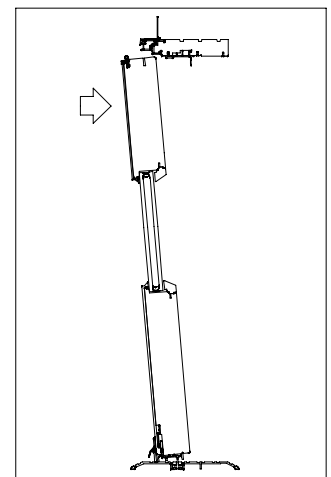

Figure 4
4. Install the panel(s) from the exterior, setting the bottom of the panel into place first and then tilting into place. See figure 4.